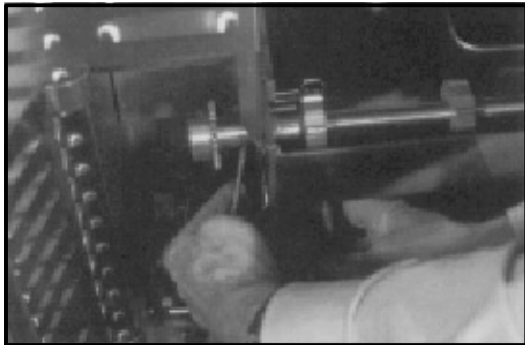

Figure 26
- a.) Remove the 1/4" hex bolt and nut (inside control box), that fastens the drive side conveyor support to the control box. See Figure 26.